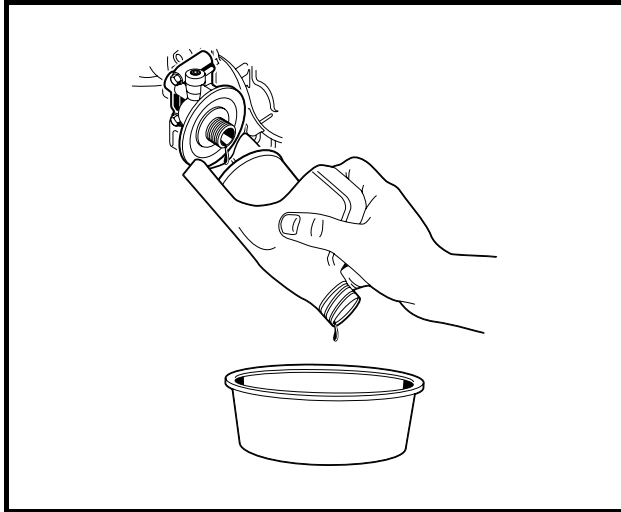

Figure 10-6 Remove Engine Oil Filter
9. Remove the engine oil filter, turning it counterclockwise, allowing the residual oil in the filter port and filter to drain into the oil drain pan (**Figure 10-6, Page 10-9**). **See following NOTE.**